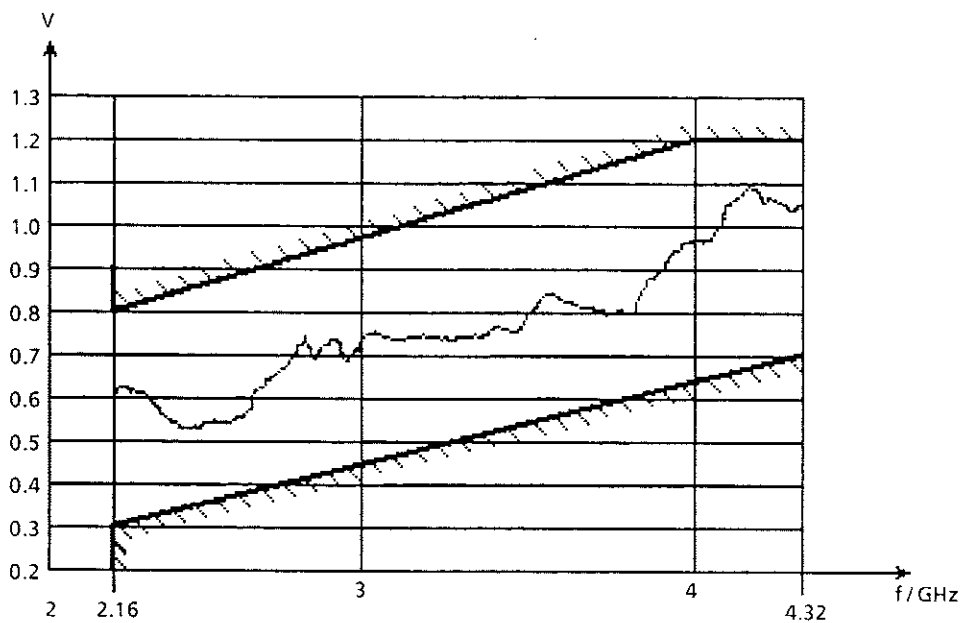

Fig. 5-5 Voltage at X26 versus frequency
- Set a frequency on the instrument according to Fig. 5-5.